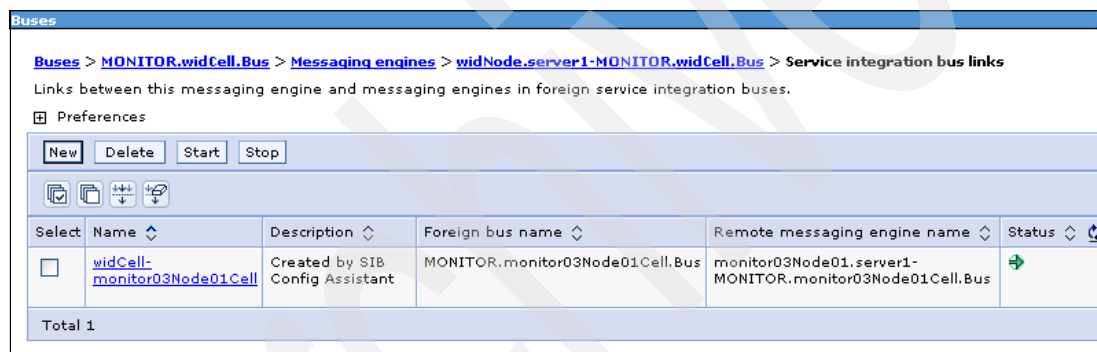

Figure 5-78 Checking the service integration bus link
10. Under Additional Properties, click **Service integration bus links**. One link is defined, and the Status field shows a green arrow indicating that the link is active (Figure 5-78).